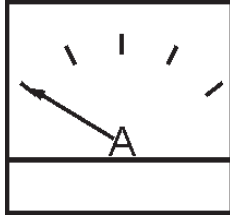

Figure 54. Ammeter (No Load)
16. The ammeter (Figure 54) will indicate zero amps with no load applied. When a load is applied, the ammeter will indicate the amount of current that the load is drawing from the generator.